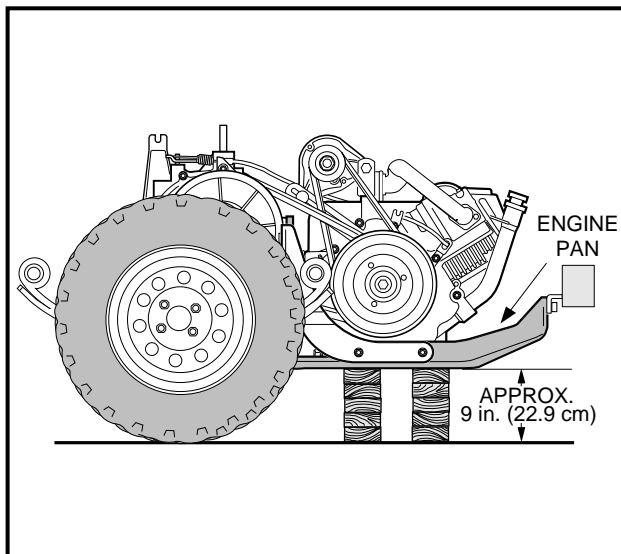

Figure 16-27 Position Powertrain
14. Place blocks under the engine pan so they will completely support the engine and keep it level to the floor (**Figure 16-27, Page 16-12**). **See following NOTE.**